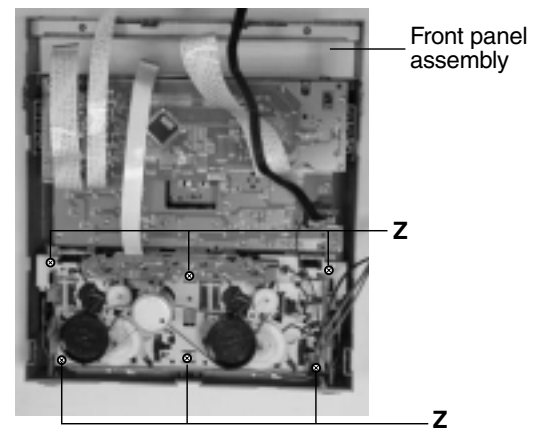

Fig.19
■ Replacing the CD turn table and removing the motor (See Fig. 19)
■ Removing the cassette deck mechanism (See Fig.19)
■ Removing the cassette deck main motor, and replacing the main belts (See Fig.19, 24 and 25)
1. Remove six screws **Z** retaining the cassette deck mechanism. (Fig.19)
■ Removing the leaf switches of the cassette deck mechanism (See Fig. 19 and 26)
1. Remove the six screws **Z** that retain the cassette deck mechanism. (Fig.19)
■ Removing the cassette deck heads (See Fig. 19 and 27)
1. Remove six screws **Z** that retain the cassette deck mechanism. (Fig.19)